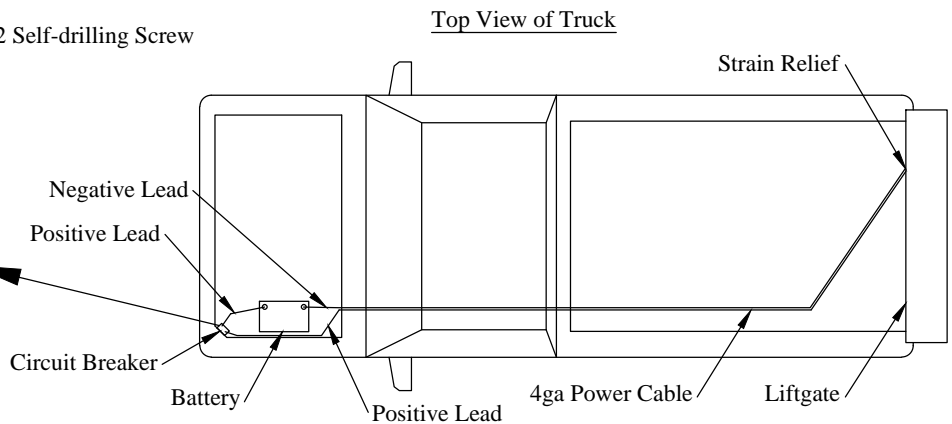

Figure 16: Electrical routing.
3. **Loosen** the strain relief on the back of the liftgate mainframe (Figure 16).
4. **Pull** the power cable (coiled up in the liftgate mainframe) carefully through the strain relief. Leave approximately two (2) inches of slack inside the liftgate mainframe.
6. **Route** the power cables along the driver side frame (Figure 16) to the battery following the *Tommy Gate Recommended Electrical Wiring Guidelines*.